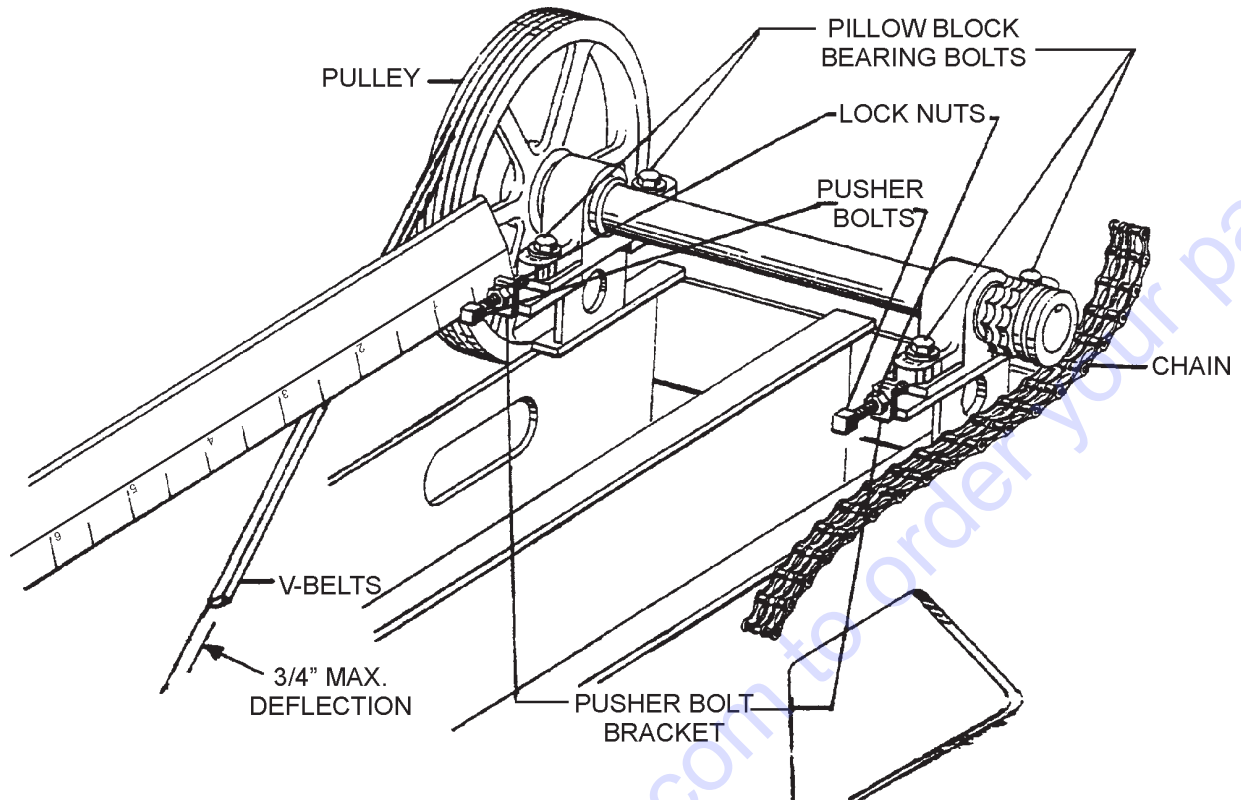

Figure 26. V-Belt and Drive Chain Adjustment
1. Loosen the pillow bearing bolts (Figure 26) only to the point where the bolts will remain snug.